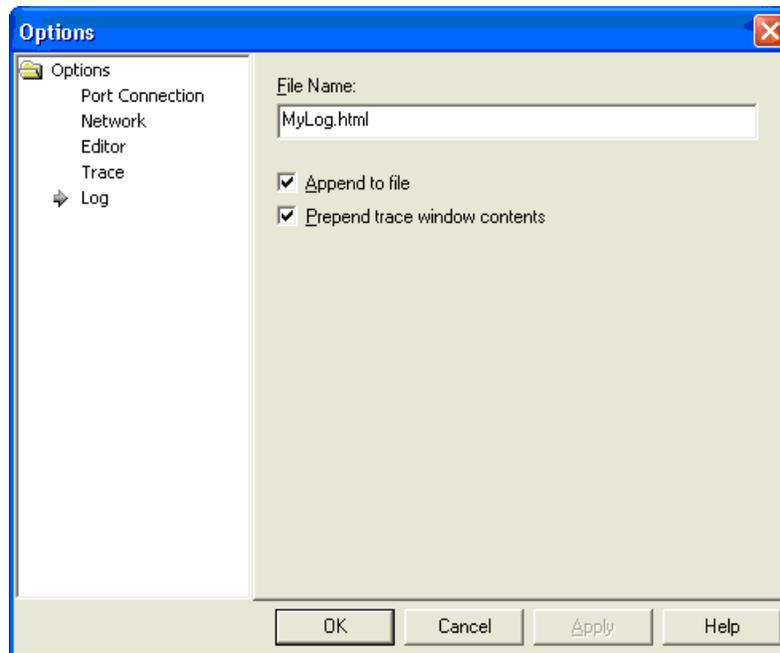

Figure 29. Log File Configuration Options
- **Automatic Save to File:** Select the Log option in the Options dialog box (for information on log file configuration options, see Figure 29).
The log file option automatically saves the trace window contents while a script is running. Figure 29 shows the log file configuration options.